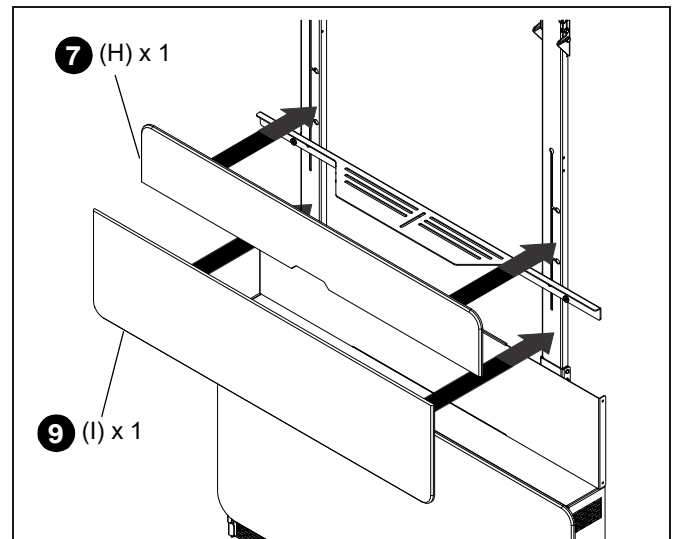

Figure 23
7. Place mid cover (I) directly over the speaker shelf (L). (See Figure 23)
8. Install two magnetic tape strips (R) onto top uprights (E) by removing adhesive cover to permanently secure them to uprights above the speaker shelf (L).
9. Place top cover (H) onto two magnetic strips (R) directly above the speaker shelf (L). (See Figure 23)